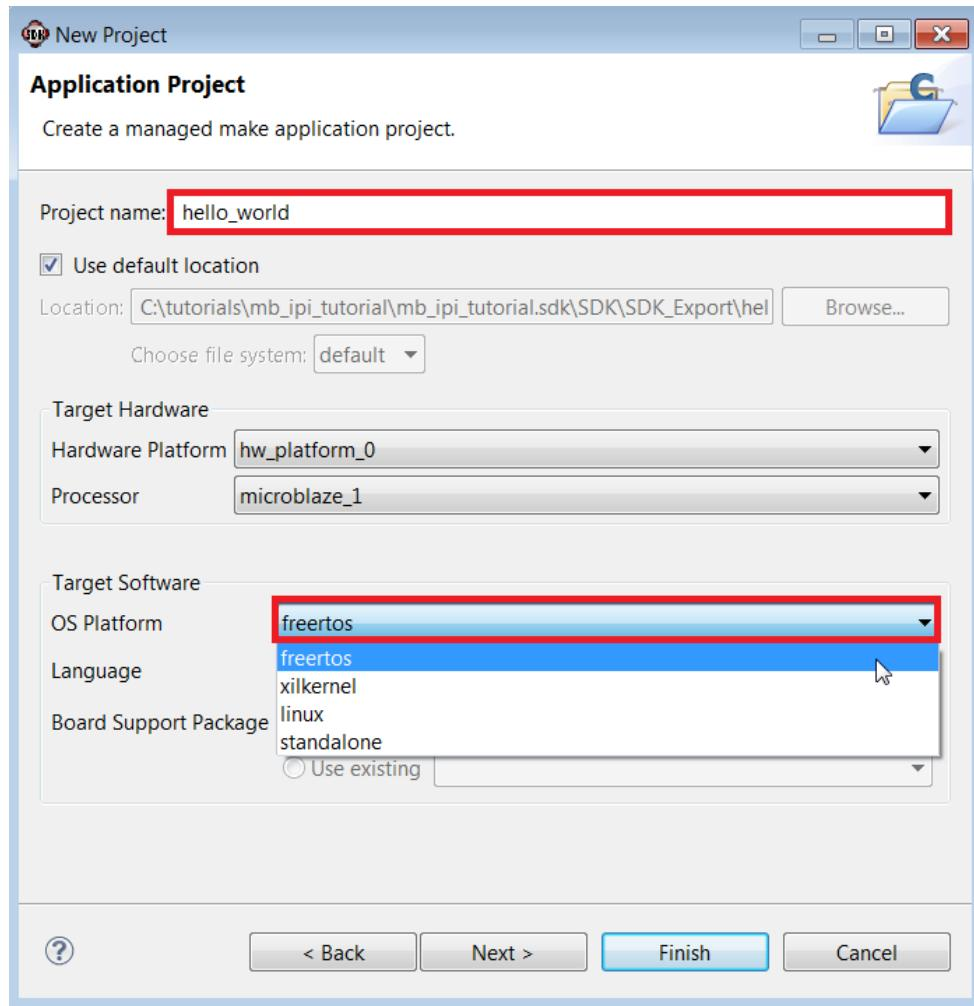

Figure 138: New Project: Application Project Wizard
4. Type a name (**hello_world**) for your project and choose **FreeRTOS** as the OS platform (Figure 138).